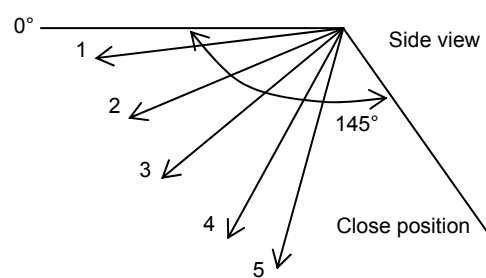

Figure 2
- Manual vertical airflow direction can be set using remote control; the angles of the vane are as stated above and the positions of the vane are as figure 2 below. When the air conditioner is stopped using remote control, the vane will shift to close position.